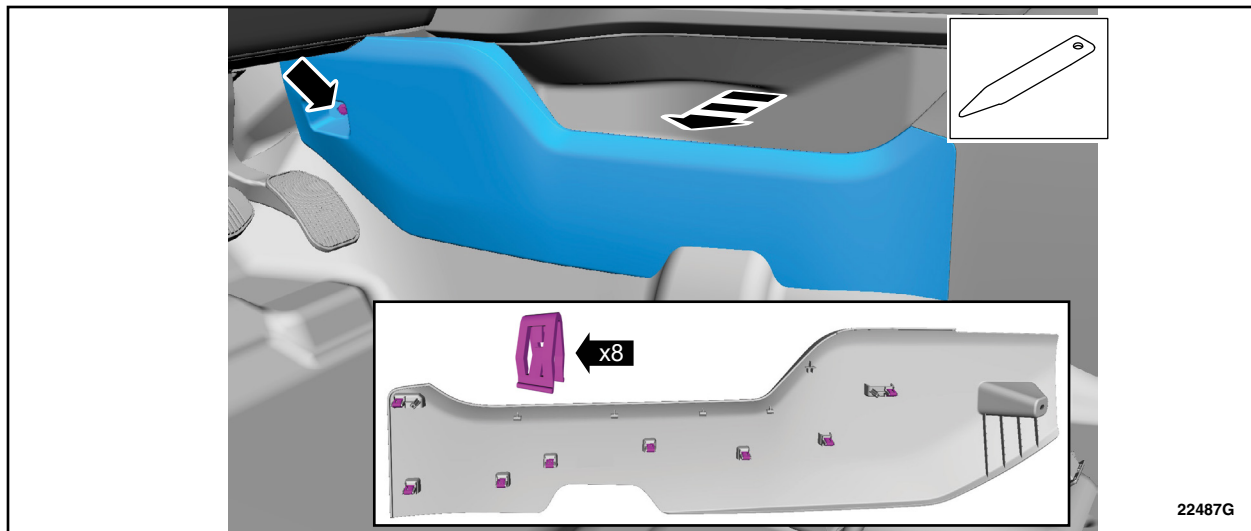

FIGURE 7
9. Remove the bolt, release the clips and remove the floor console lower Left Hand (LH) trim panel. See Figure 7.